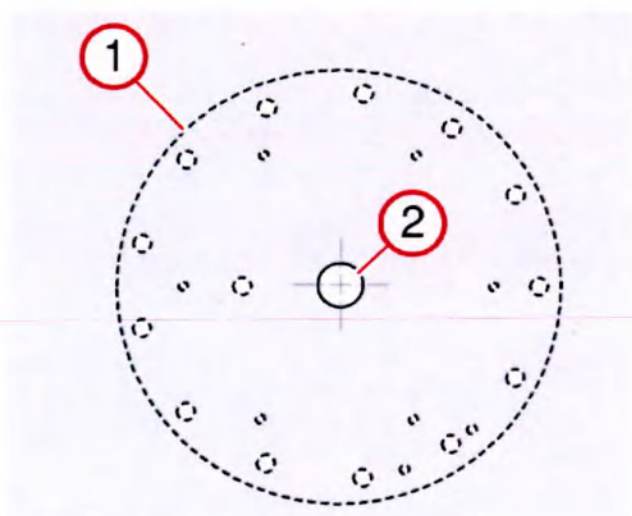

Fig. 59: Floor stand, position of the cable
The cable outlet must be installed directly over the center of the floor stand mounting plate Fig. 59 (2).